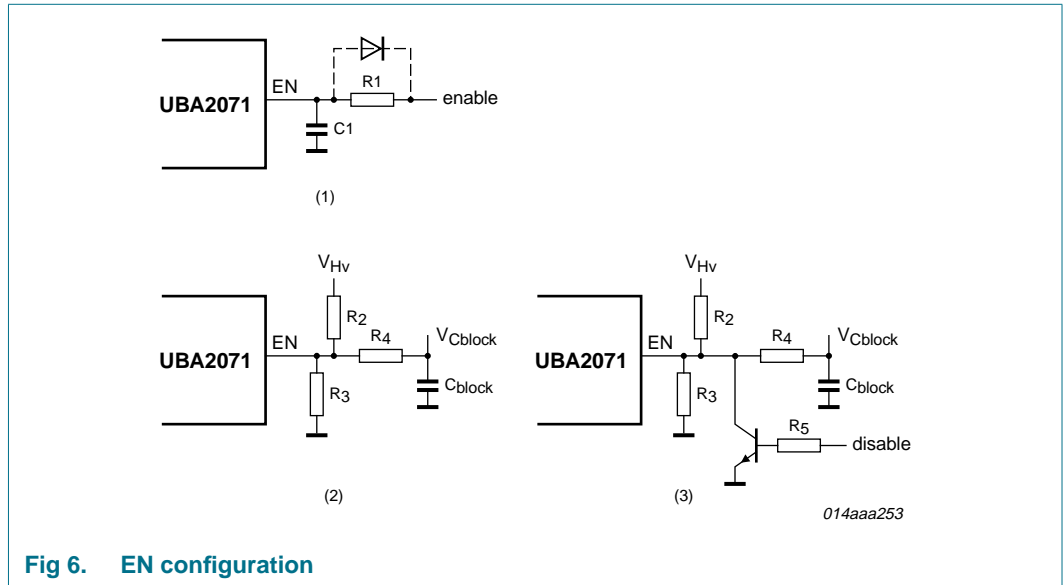

Fig 6. EN configuration
When the voltage on the EN pin goes over  $V_{th(H)1(EN)}$  after the IC has been disabled (EN pin below  $V_{th(L)(EN)}$ ) the IC will start up in DC blocking capacitor charging mode3. When the voltage on the EN pin goes over  $V_{th(H)1(EN)}$  after the IC has been off (EN pin below  $V_{th(L)(EN)}$  or  $V_{DD}$  below  $V_{stop(VDD)}$ ) the IC will start up in DC blocking capacitor charging mode. When the voltage on the EN pin goes over  $V_{th(H)2(EN)}$  the IC will continue with the initial ignition frequency sweep and normal operation mode. Figure 6, EN configuration, shows three examples of how the enable input can be used:
**Remark:** Due to the nature of the charging sequence,  $V_{Cblock}$  will automatically be charged to  $0.5 \times V_{HV}$  (when given enough time). If the IC is kept in DC blocking capacitor charging mode longer than necessary,  $V_{Cblock}$  will remain  $0.5 \times V_{HV}$ . Therefore the time constant made by R1 and C1 in example A in Figure 6, is not critical. However, since  $V_{Cblock}$  cannot become more than  $0.5 \times V_{HV}$ , it is important to take a lower target value for  $V_{Cblock}$  than  $0.5 \times V_{HV}$  (with enough margin) in examples B and C of Figure 6, otherwise the IC may get stuck in DC blocking capacitor charging mode.